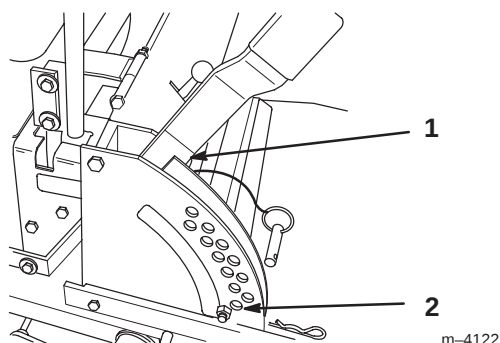
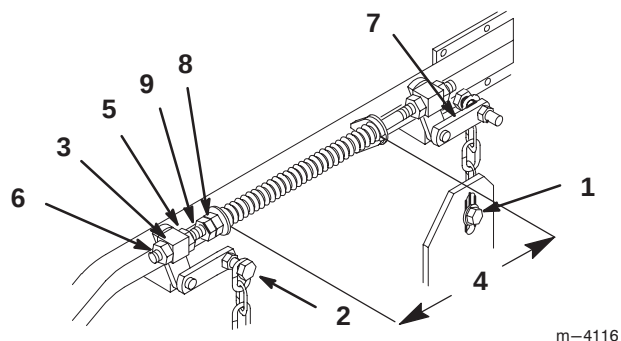

Figure 53
Figure 54
2. Check tire pressure of all four (4) tires. If needed, adjust to 13 psi (90 kPa).
4. Raise the deck to the transport position (Fig. 53). Take force off of the two large deck lift springs by loosening jam nut and front spring nut, in front of each spring, as far as possible (Fig. 54).
- Place two 1-1/4" (35 mm) thick blocks under rear left and right lower edge of mower. Place one 1-3/8" (44 mm) block under front center lower edge of mower. Not under anti-scalp roller brackets. Lower mower to the 1-1/2" (38 mm) height-of-cut position (Fig. 53).
- Loosen bottom chain bolt in slot at rear of deck. Repeat for opposite side. (Fig. 54).
- Loosen front and rear locking nut on either side of front swivel. Loosen until front chains are loose and deck is supported by blocks. Repeat for opposite side. (Fig. 54).
- When hardware is loosened, remaining tension in the large support springs will tend to rotate the deck lift handle up, out of the 1-1/2" position. Press down on the rear deck support arm to firmly return the deck lift handle to the 1-1/2" position (Fig. 54).
- While continuing to press down on rear deck support arm, take the slack out of the rear chain and tighten hardware at the bottom (Fig. 54). Downward pressure may now be released. Repeat for opposite side.
- Raise deck lift lever to the transport position (Fig. 53).
- Adjust compression springs by turning the front spring nuts so the distance between the two large washers is 10-1/4" (260 mm). Then tighten jam nut (Fig. 54).